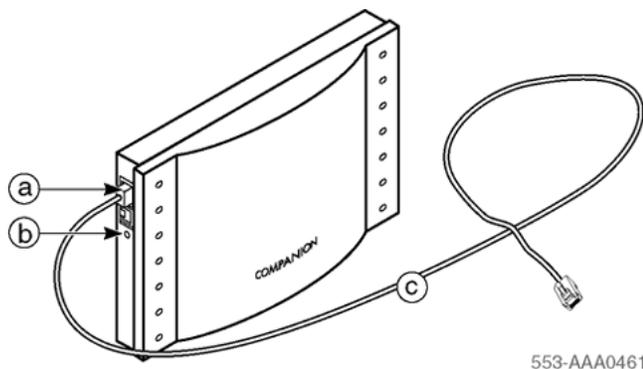

Figure 15: Basestation
- The DMC8 and DMC8-E feeding phantom power over the UTP Cat 5 cable signaling pairs, connected to (a) in Figure 15: Basestation on page 27
- A local power supply, connected to (b) in Figure 15: Basestation on page 27